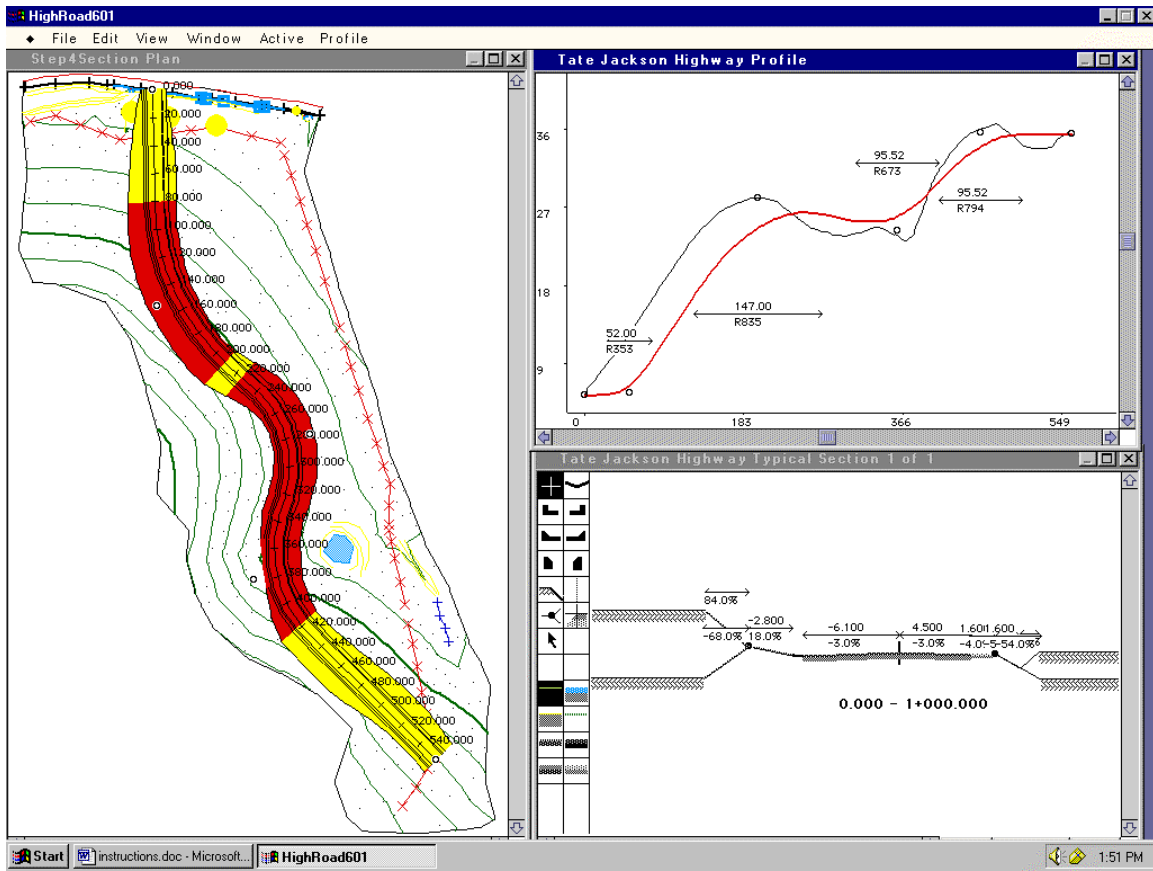
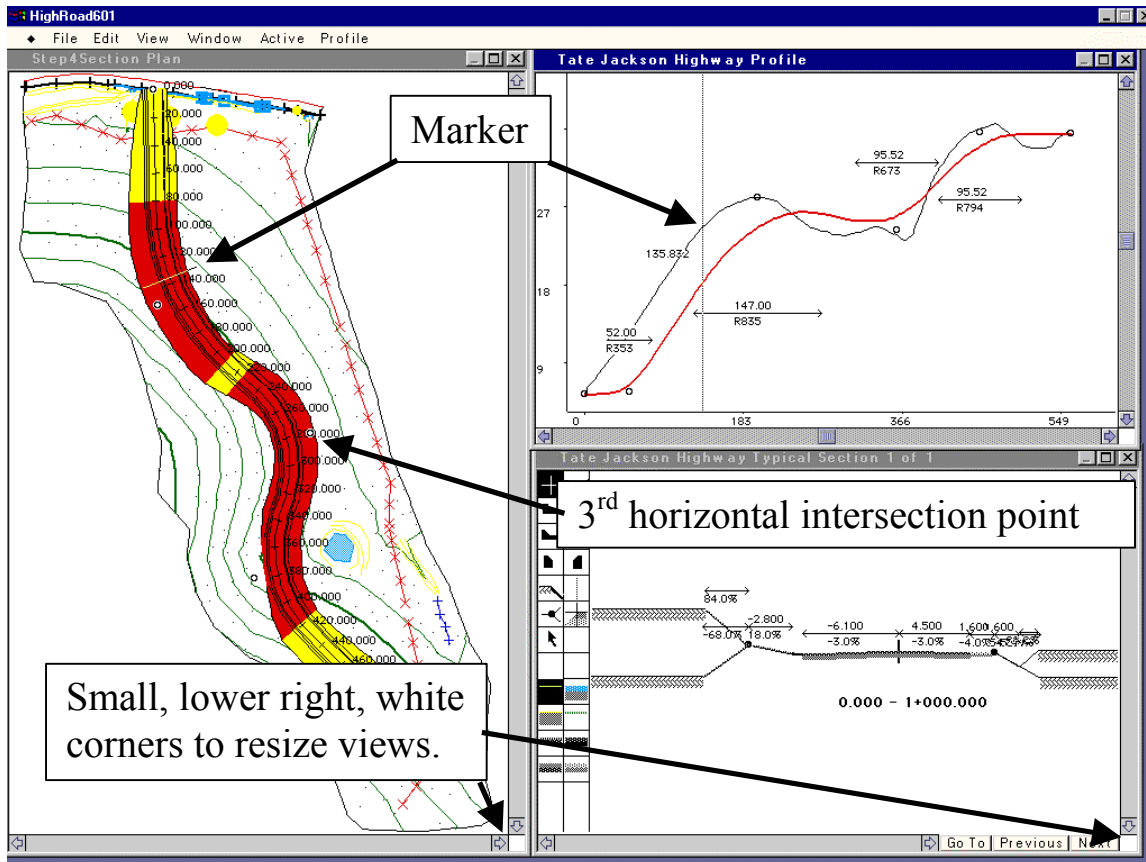

Figure 26: Seeing the Plan, Profile, and Typical Section Views at Once
Figure 27: A marker that shows the relationship between the plan views and the profile views
Experiment with showing the plan, profile, and typical section views at the same time. You can resize each of these individual views, or windows, by left clicking on the small white window in the lower right hand corner of each view (see Figure 27). To make the plan view take up the left half of the screen as shown in Figure 26, hold the left mouse button down while the mouse is in the small white box in the lower right hand corner and move the mouse up or to the left. You should use a similar technique to place the profile view in the upper right portion of the screen and the typical section view in the lower right portion of the screen as shown in Figure 26.
You can now more easily follow the relationship between the different views. If you left click on the profile view, hold down that left mouse button, and move the resultant marker to the right, then you can see a corresponding marker move in the plan view as shown to the left of Figure 27.
3. Look at the plan view on your screen (similar to the left side of Figure 27). As a motorist rounds the vertex of the main horizontal curve near chainage 300, will she be going up a hill or going down a hill? How can you tell?
4. Given the existence of natural and man made features, what are some general reasons for why there might be a horizontal curve such as that shown in Figure 27?
The red sections of the road shown in Figure 27 are portions that are “substandard” because of safety reasons. Left click on the “third horizontal intersection point,” located near chainage 280 and highlighted in Figure 27. While holding the left mouse button down, move this intersection